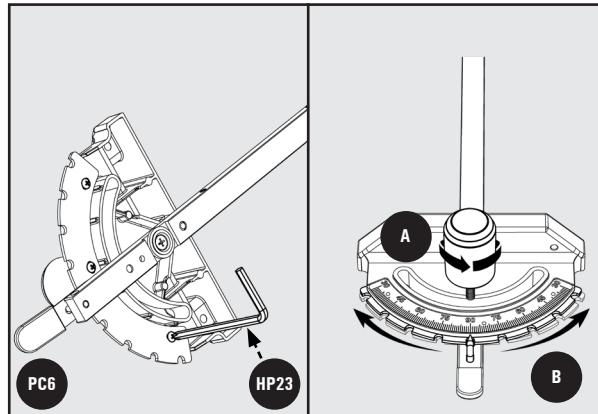

Figure 28
Use the supplied 3/16 inch two-way Allen wrench L Shape ^{HP23} to loosen the three Phillip screws located in the back of the miter gauge ^{PC6}, seen in Figure 28 .
1. Loosen the knob **A**, seen in Figure 28.
2. Adjust the detent plate **B** so that the indicator measures the correct angle, seen in Figure 28.